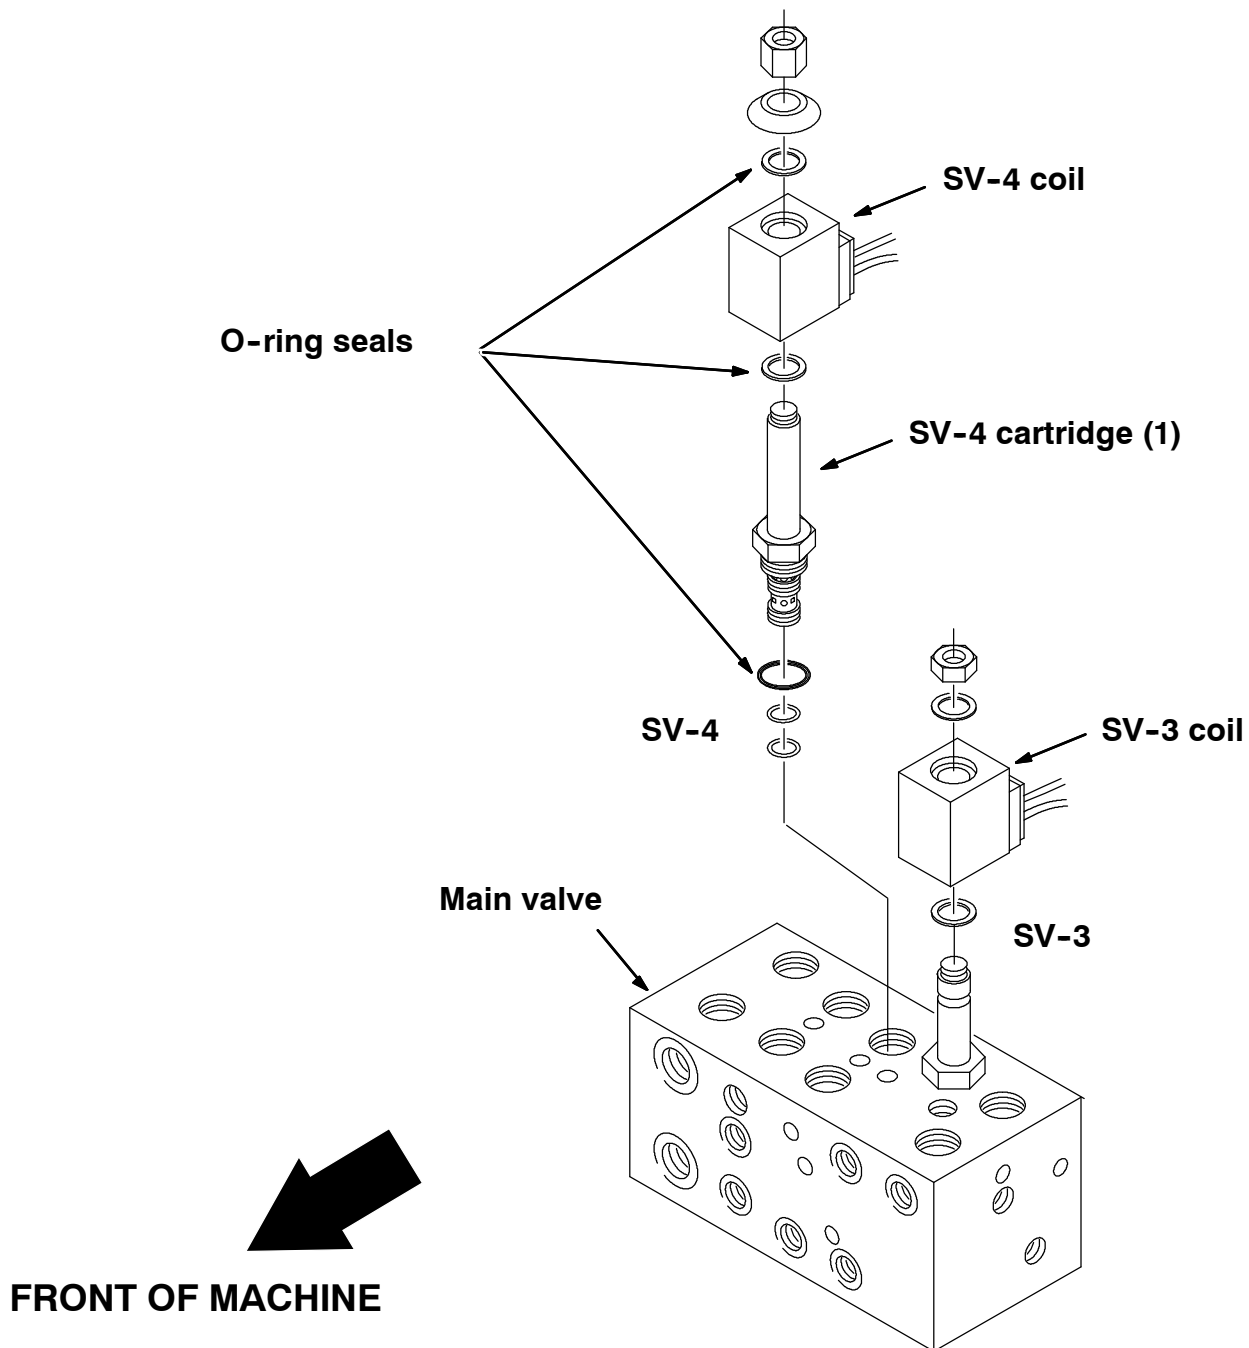

FIG. 1 - Main Valve Assembly
(Refer to FIG. 1)
2. Locate the main valve under the vacuum fan. Remove the plastic wire ties holding the harness to the top of the valve. (Refer to FIG. 1)
3. Remove the nut holding the electrical coil to the **SV-3** cartridge. lift the coil off the cartridge. This will give better access to the **SV-4** cartridge. (Refer to FIG. 1)
4. Remove the nut holding the electrical coil to the **SV-4** cartridge. lift the coil off the cartridge. (Refer to FIG. 1)
1. Install the new cartridge (1) in the **SV-4** port on the main valve body. Tighten firmly. (Refer to FIG. 1)
2. Reinstall the electrical coil on the new cartridge (1) in the **SV-4** port. (Refer to FIG. 1)
3. Reinstall the electrical coil on the cartridge in the **SV-3** port. (Refer to FIG. 1)
4. Use a plastic tie on the harness at the main valve. (Refer to FIG. 1)
5. Start the machine and operate the machine in the scrub mode. Check the new cartridge for proper operation. (Refer to FIG. 1)